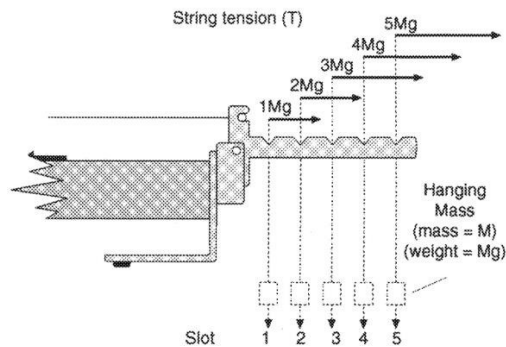

Figure 11.3
- 1.) Start with the bridges 60 cm apart. Use any of the included strings and hang a mass of approximately 1 kg (being sure to include the mass of the hanger itself) from the first slot of the tensioning lever (see Figure 11.3). Adjust the string adjustment knob so that the tensioning lever is horizontal. Position the driver coil 5 cm from one of the bridges and position the detector coil near the center of the wire. Record the length, tension (N) and linear density of the string in Table 11.2.
- 1.) Replace the wire on the Sonometer with a color coded unknown wire. Then with the set up the same as in the previous section measure the *fundamental harmonic*,  $f_0$ , using 5 different tensions. Vary the tension by keeping the mass the same, but changing the location of the mass on the tensioning lever (see Figure 11.3). Change the string adjustment knob each time you move the mass so that the tensioning lever is always horizontal.